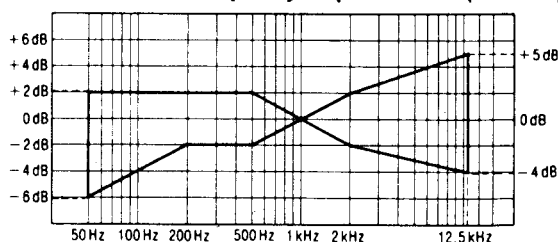

Fig.9
8. Assure that the level is within the range shown in **Fig.9**.